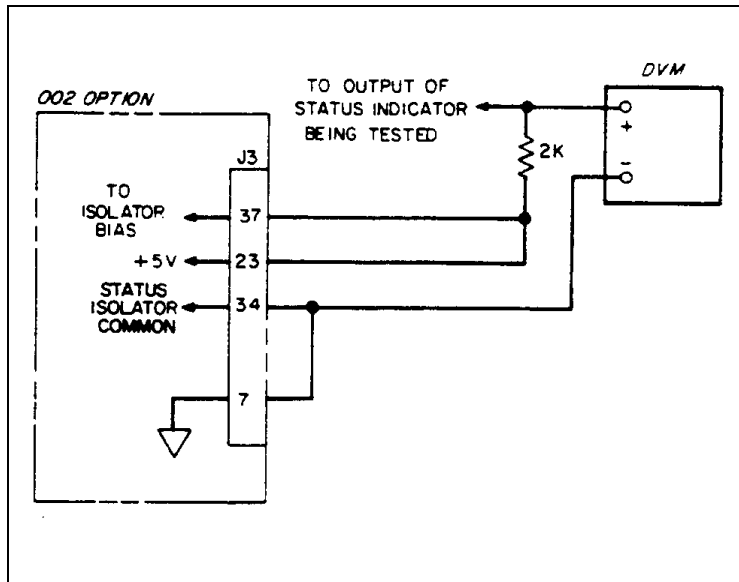

Figure A-13. Troubleshooting Status Indicators
Troubleshooting Status Indicators. The test set-up shown in Figure A-13 can be used to check each of the six status indicators. This set-up will temporarily defeat the isolation of the status lines. Before attempting to troubleshoot a status indicator, check for + 5V Bias for proper operation of the opto-couplers.
- a. Using test set-up, Figure A-13, connect to end of 2K Ω resistor to J3-36.
- a. Using test set-up, Figure A-13, connect top end of 2K Ω resistor to J3-35.
- a. Using test set-up, Figure A-13, connect top end of 2K Ω resistor to J3-17.
- a. Using test set-up, Figure A-13, connect to end of 2K Ω to J3-18.
- a. Using test set-up, Figure A-13, connect top end of 2K Ω resistor to J3-19.
- d. Using test set-up, Figure A-13, connect top end of 2K Ω resistor to J3-16.